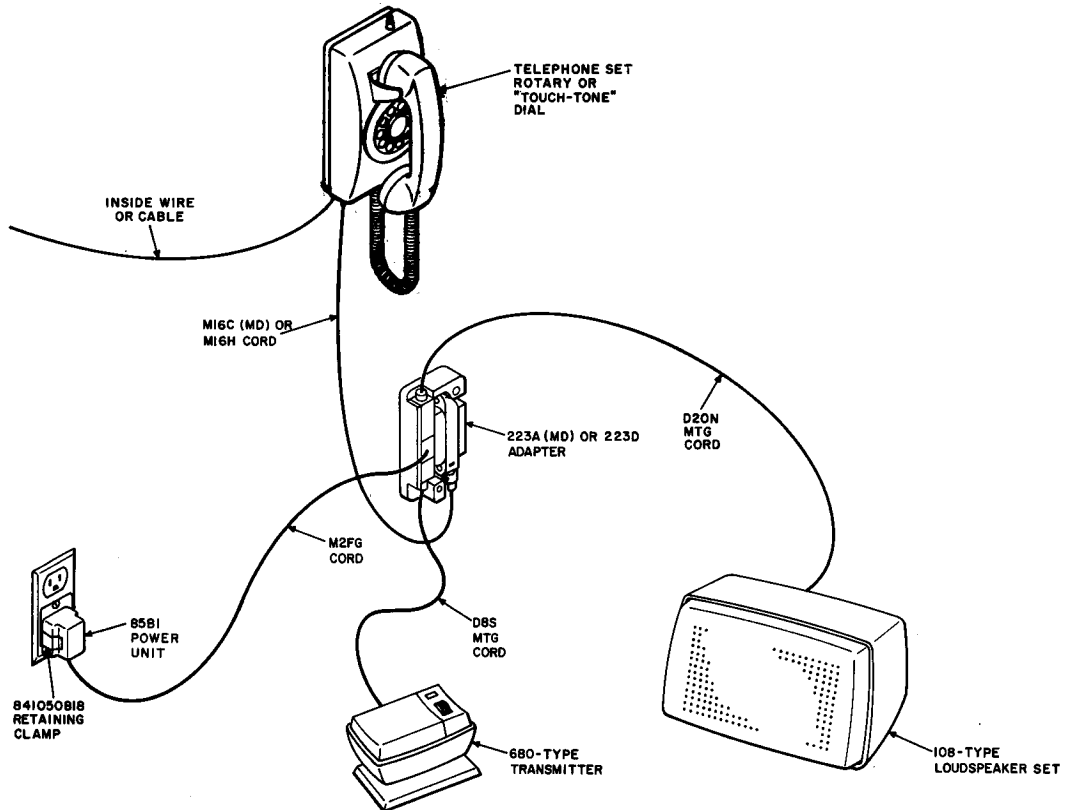

Fig. 1—Typical Grandfathered 4A Speakerphone System Arrangement, 558D, 558F, and 2558D Telephone Sets Using 223A (MD) or 223D Adapter
2.04 Power shall be supplied by connecting 85B1 power unit as shown in Fig. 1 or 2.